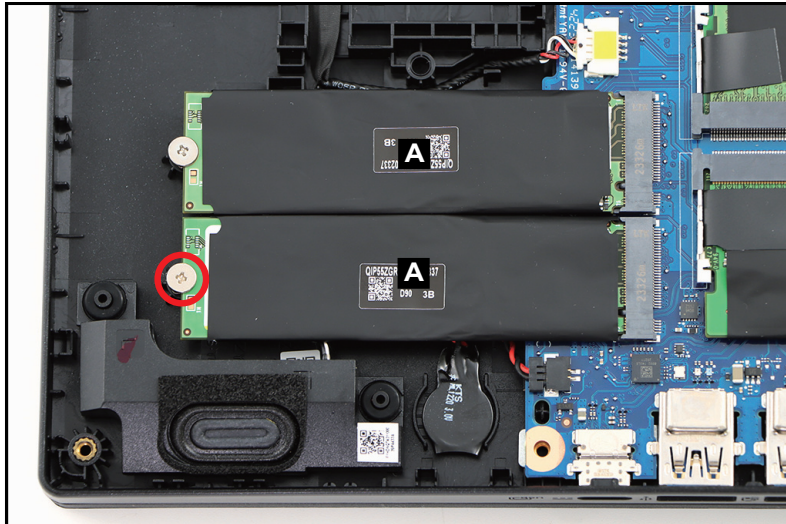

Figure 1-10. SSD Module Removal
1. Find the SSD modules (A) on the top assembly (Figure 1-10).
2. Remove one (1) screw securing one of the SSD modules (Figure 1-10).